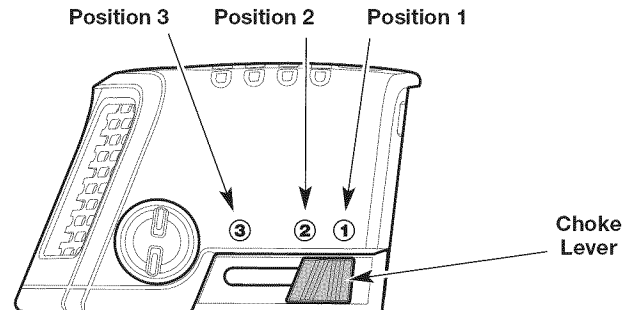

Fig. 14
4. Move the choke lever to **Position 1** (Fig. 14).
7. Continue to press the throttle lockout and squeeze the throttle control. Move the choke lever to **Position 2** (Fig. 14).
10. Continue to press the throttle lockout and squeeze the throttle control. Move the choke lever to **Position 3** (Fig. 14) and continue warming the engine for an additional 60 seconds. The unit may be used during this time.
8. Continue to press the throttle lockout and squeeze the throttle control. Move the choke lever to **Position 2** (Fig. 14).
12. Continue to press the throttle lockout and squeeze the throttle control. Move the choke lever to **Position 3** (Fig. 14) and continue warming the engine for an additional 60 seconds. The unit may be used during this time.